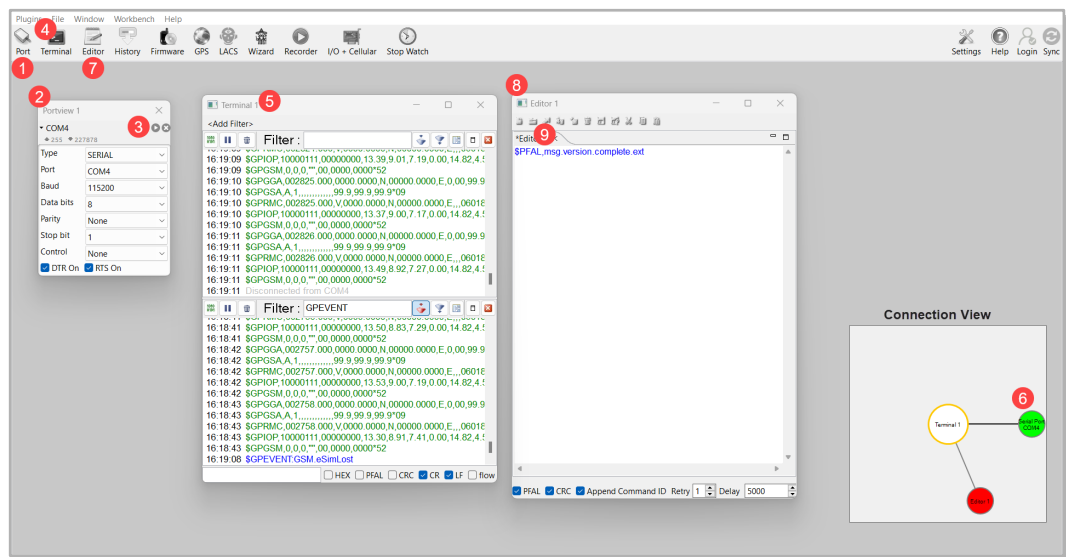

Figure 18: Workbench Interface Components
7. Click **Port** (1), to open a new Com port, **Portview 1** (2) displays (see **Figure 18 below**). In **Portview 1**, select the port to which the FOX4-4G device is connected (go to Device Manager > Ports > USB Serial Port (COMxx), where xx is the COM port to use). Select the following values for fields in **Portview 1**: